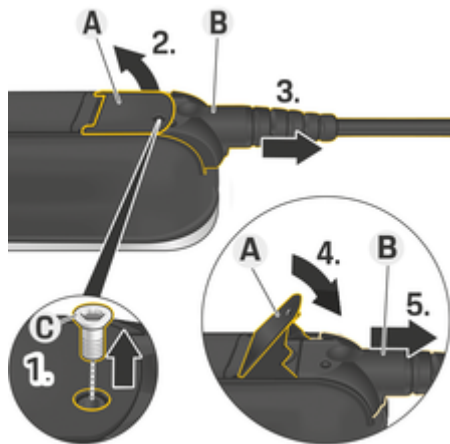

Fig. 37: Disconnecting cables
1. Remove screw **C** (Fig. 37) using a suitable tool.
2. Lift lever **A** (Fig. 37).
3. Pull out plug **B** (Fig. 37) until you first feel resistance.
4. Close lever **A** (Fig. 37).
5. Pull out plug **B** (Fig. 37) fully.